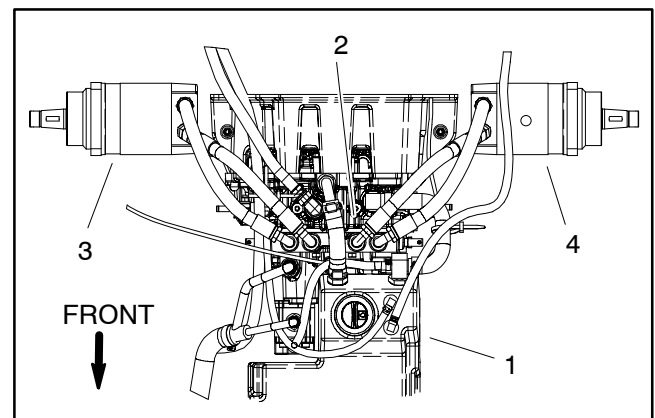

Figure 33
8. Label all hydraulic hoses and fittings for assembly purposes (Fig. 33). Remove hydraulic hoses from fittings on wheel motor. Allow hoses to drain into a suitable container.
12. Remove four (4) socket head screws that secure wheel motor to the machine.